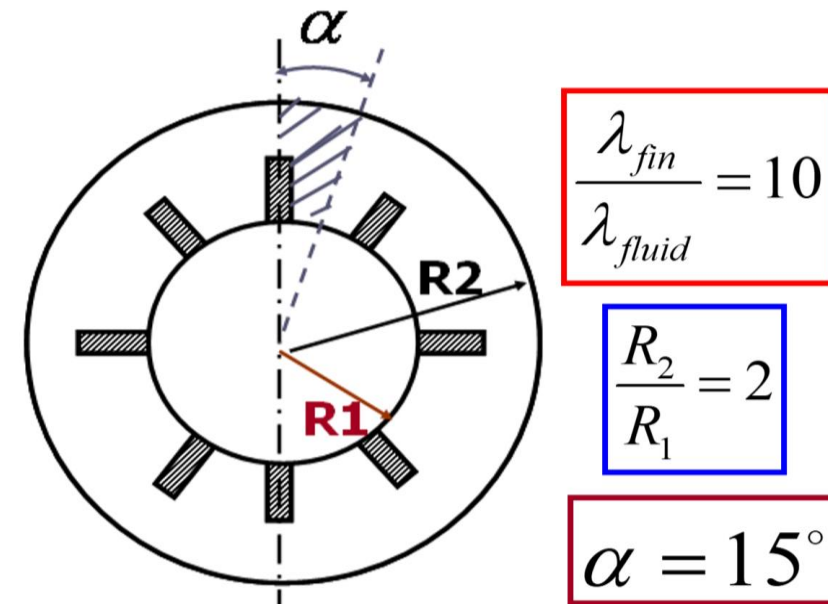

Fig.1 Cross section view of Problem 4
**Known:** Laminar heat transfer with constant properties in annular space with straight fins at inner wall (Fig. 1). Its outer wall is adiabatic, while inner wall temperature is circumferentially uniform (周向均匀壁温).